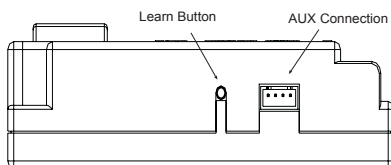

Figure 43 - Gas Module Left Side
1. There is a switch located on the right side of the module that reads REMOTE/OFF (Figure 43).
- To program the module (make sure the system has power), locate the learn button (Figure 43) on the module. Press and release the learn button. There will be a beep sound from the module. Then press any button on the remote transmitter. Once the module's internal receiver accepts the transmitter code, there will be a series of confirming beeps.